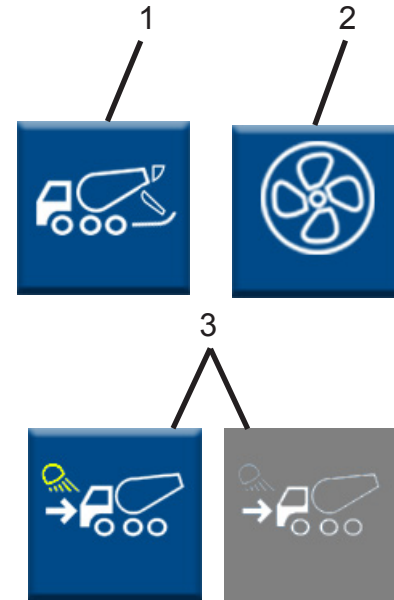

Figure 20
- Remote PTO mode (Figure 20, Item 1). The icon will be grayed out if not turned on.
- Hydraulic Fan (this function is already engaged if the temperature is over 140°F) (Figure 20, Item 2). The icon will be grayed out if not turned on.
- Work Lights ON in Reverse (Figure 20, Item 3). Use work lights on in reverse at a job site only. Using work lights on in reverse while on the roadway is not recommended and may not comply with applicable laws. The icon will be grayed out if not turned on (shown in Figure 20, Item 3).